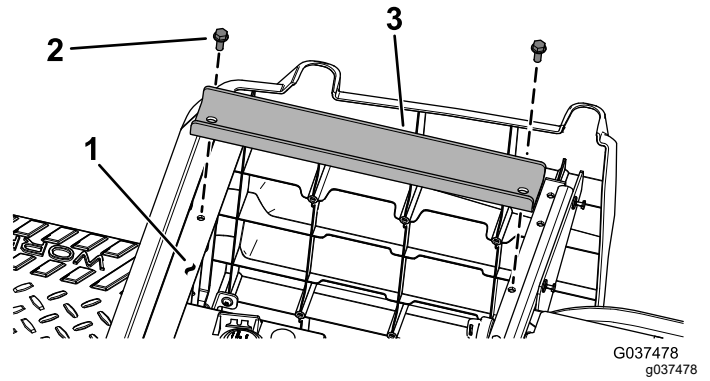

Figure 7
3. Install the 2 bed-support brackets to the seat supports using 4 self-tapping screws (5/16 x 3/4 inch) as shown in Figure 7.